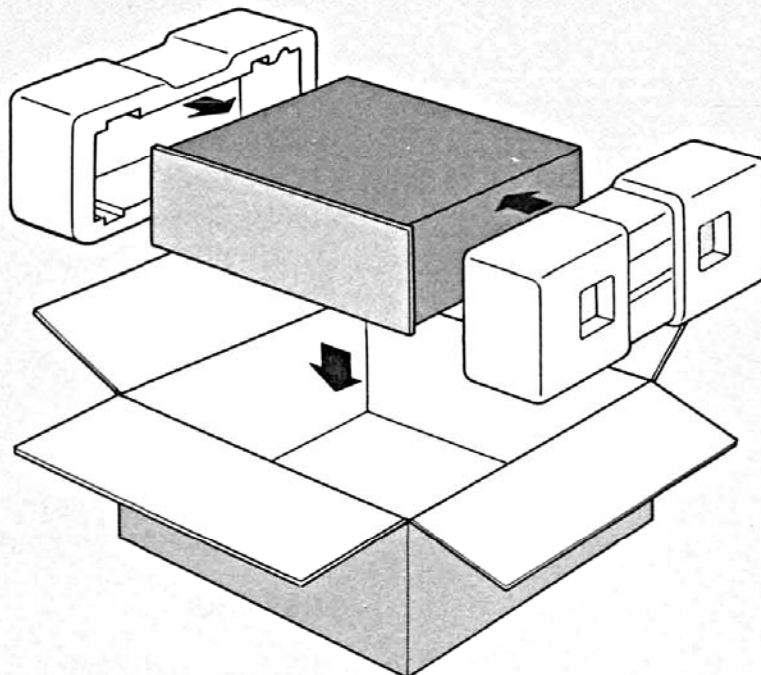

Figure 7. Packing Instructions
- a. Pack the unit carefully, using the original material as shown in Figure 7.